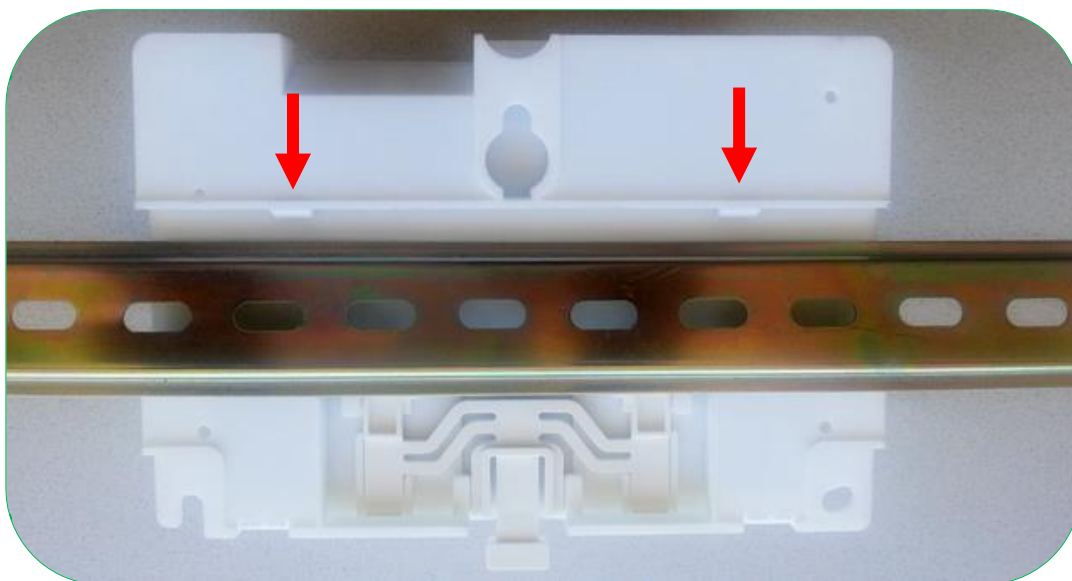
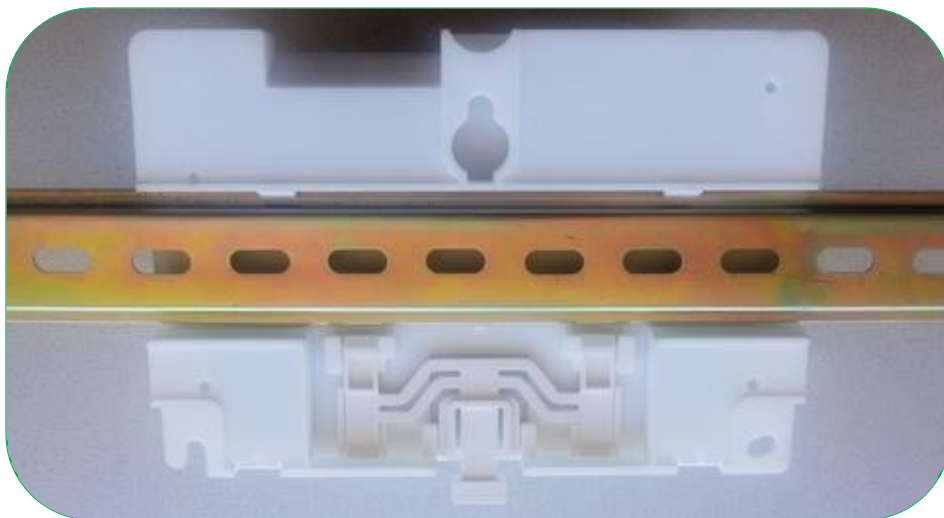

Figure 55: Hanging the device on the DIN rail (back view)
Figure 56: Hanged device on the DIN rail (back view)
3. In the top-to-bottom direction, hang the device on the DIN rail (Figure 55). The rail must be inserted under the upper plastic pins (Figure 56).